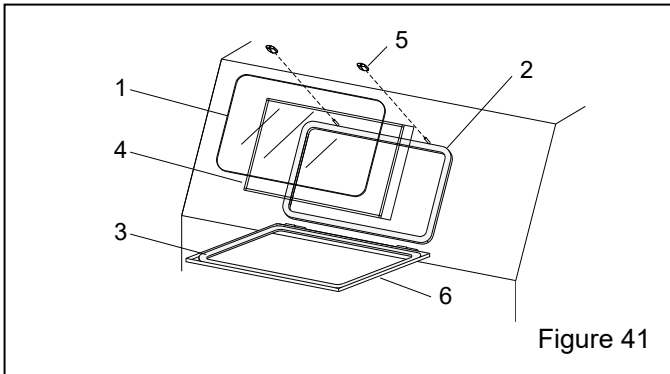

Figure 41
9.3 View-Window Assembly – Figure 41